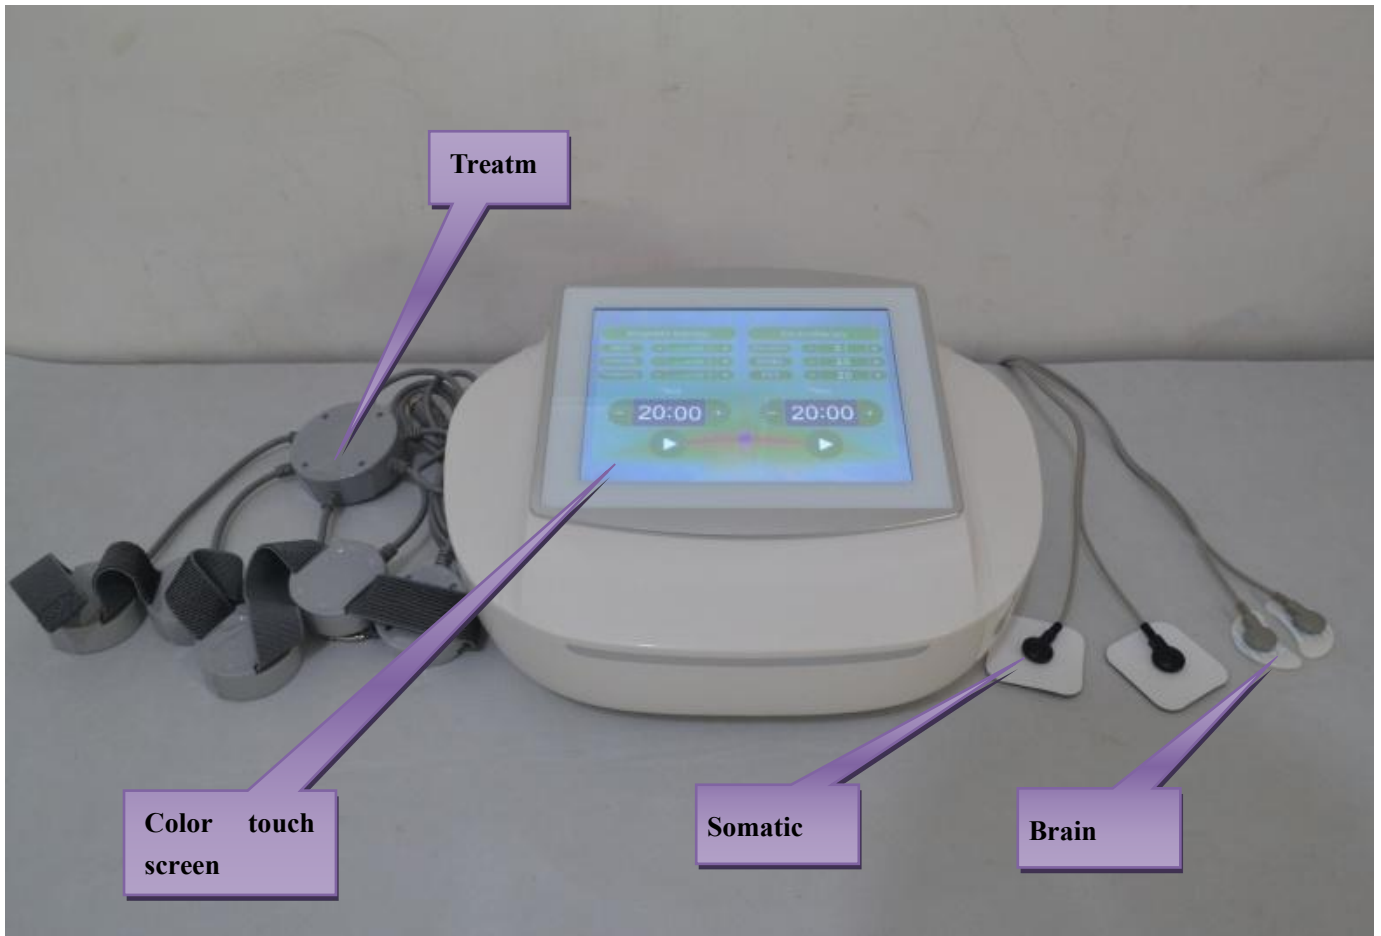

Fig. 1 Structure of WF-9902 Transcranial Magneto-electrotherapy Instrument
The transcranial magnetolectric therapeutic instrument consists of a main machine, a power line, a therapeutic cap, an output line and an electrode. The therapeutic cap consists of six magnetotherapeutic bodies, a connecting belt, a shell and a lead wire, wherein the therapeutic cap is divided into an Oxford belt connecting type structure and a helmet type structure, each magnetotherapeutic body consists of a cylinder or a cuboid with the diameter of 40-70mm and the height of 15-25mm, the shell is made of ABS plastic, The material of the part in contact with the human body is medical non-woven fabric: polypropylene (PP) fiber. The electrode is divided into two types: limb electrode and EEG electrode. The electrode is a purchased product with medical device registration certificate. The material of the electrode in contact with the human body is sodium polyacrylate (colloid). Figure 1 below shows the structure of the desktop WF-9902 transcranial magnetolectric therapy instrument.